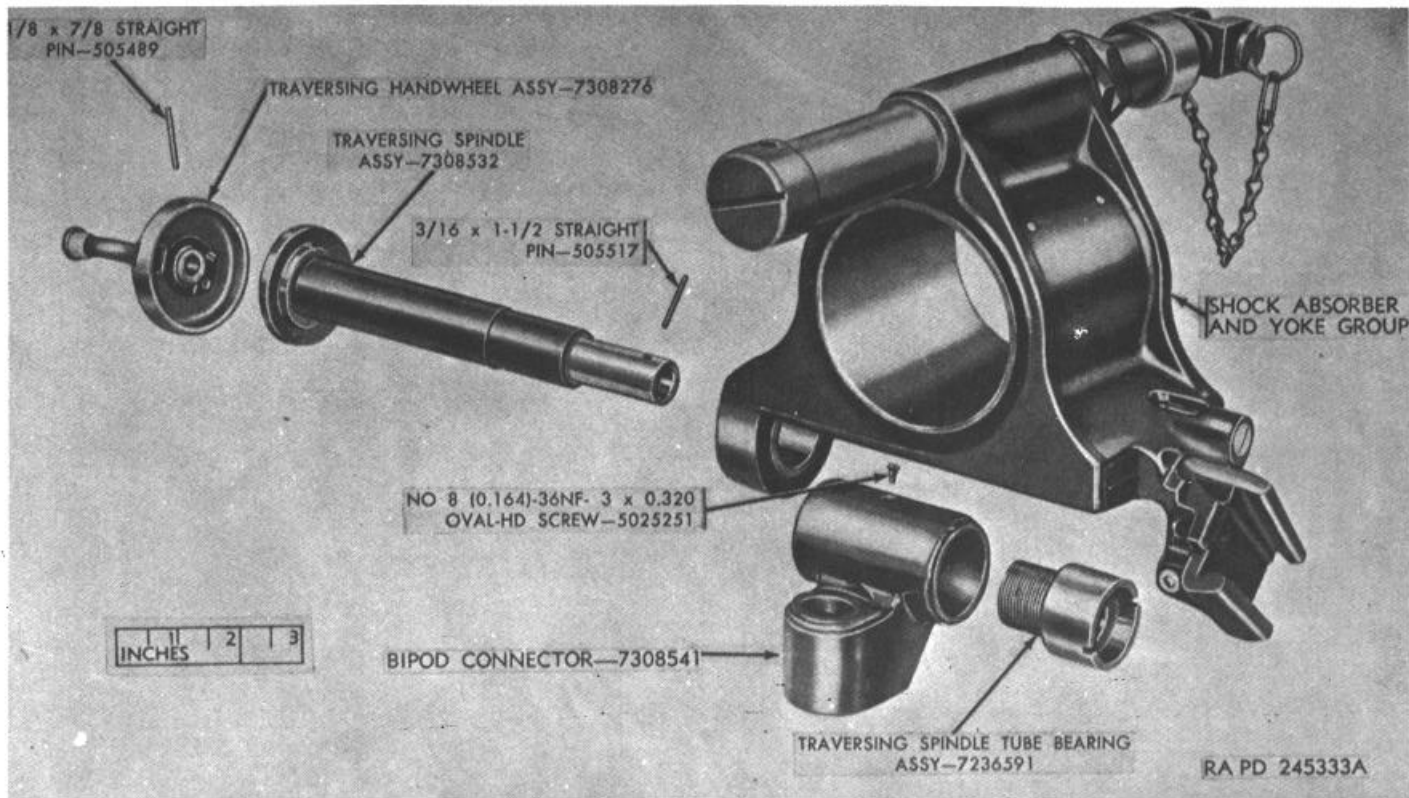
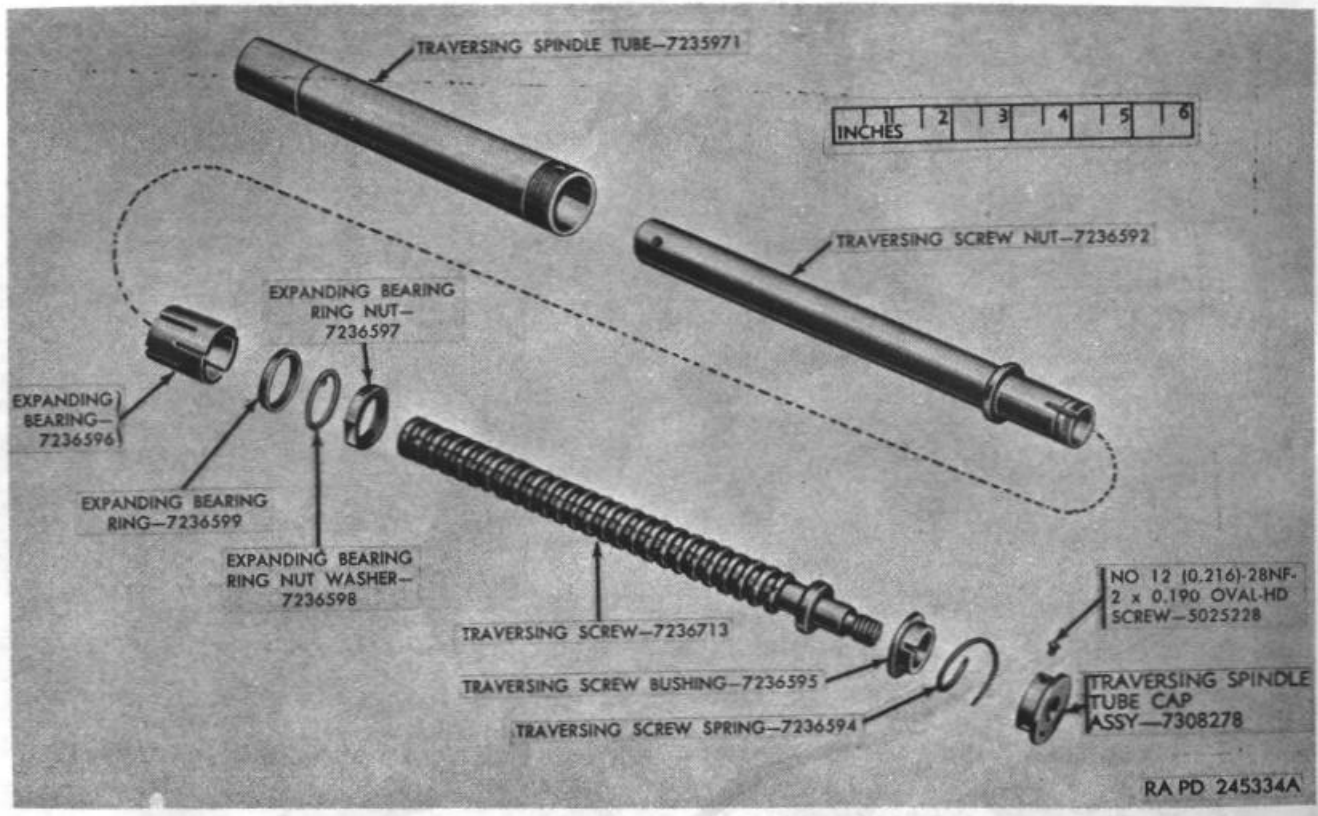

Figure 46. Traversing mechanism assembly-81-mm mortar mount M23A1-partial exploded view.
Figure 47. Traversing spindle assembly 7308532-81-mm mortar mount M23A1-exploded view.
a. Drive out straight pin that secures traversing handwheel assembly to the traversing spindle assembly and unscrew the handwheel assembly (fig. 46).
b. Drive out straight pin that secures traversing spindle assembly to the shock absorber and yoke group (fig. 46).
c. Remove oval-head screw from bipod connector and, using spanner wrench 7228728 (fig. 8) back off the traversing spindle tube bearing assembly (fig. 46). Remove the bipod connector and slide out the traversing spindle assembly (fig. 46).
d. Remove the oval-head screw and unscrew the traversing spindle tube cap assembly from traversing spindle tube and remove traversing screw spring and traversing screw bushing (fig. 47).
e. Remove traversing screw from traversing screwnut (fig. 47).
f. Unscrew expanding bearing ring nut, and remove expanding bearing ring nut washer, expanding bearing ring, and expanding bearing (fig. 47).
b. Hold traversing screw in a vise with soft jaws. Place traversing screw bushing (flanged end leading) over the screw and follow with the traversing screw spring (fig. 47). Place traversing spindle tube cap assembly over traversing screw and press it against the traversing screw spring, making certain that 0.062 x 5/16 spring pin in cap flange fits in the cut in the bushing (fig. 47). Hold traversing handwheel assembly on traversing screw until holes in the handwheel and screw align and drive in 1/8 x 7/8 straight pin to secure handwheel assembly to traversing spindle assembly (fig. 46).
c. Assemble the following on traversing screwnut in the order listed in (1) through (4) below.
- (1) Expanding bearing (fig. 47).
- (2) Expanding bearing ring (fig. 47) (tapered end leading).
- (3) Expanding bearing ring nut washer (fig. 47) (stud leading and engaging slot in traversing screwnut).
- (4) Expanding bearing ring nut (fig. 47).
d. Screw traversing screwnut (assembled end leading), on traversing screw (fig. 47).
e. Screw traversing spindle tube into the traversing spindle tube cap assembly, and install No. 12 (0.216)-28NF-2 x 0.190 oval-head screw (fig. 47).
f. Insert assembled traversing spindle through hole in yoke assembly and through bipod connector (fig. 46). Screw traversing spindle tube bearing assembly into the spindle tube, using spanner wrench 7228728, align holes and install No. 8 (0.164)-36NF-3 x 0.320 oval-head screw in the bipod connector (fig. 46).
the opposite end of the yoke, making certain lubricating hole aligns with oil cup in yoke, and drive in 3/ 6 x 11/2 straight pin to secure nut to yoke (fig. 46).